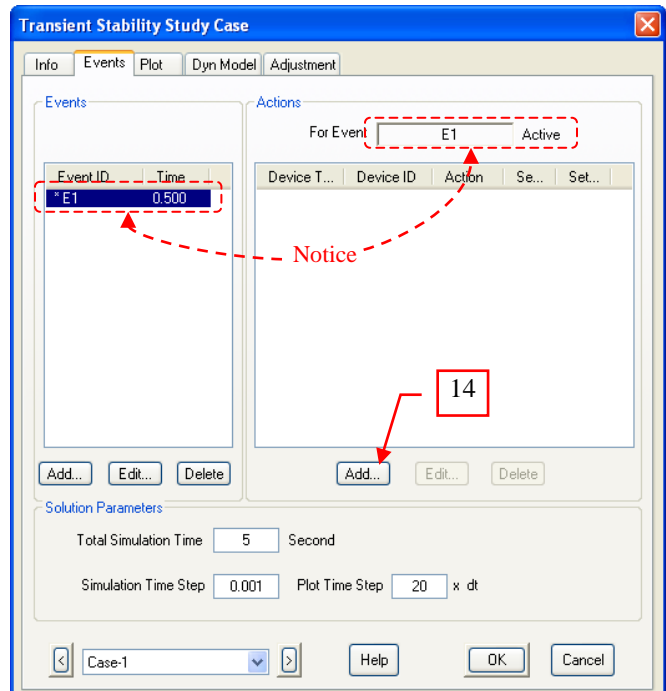

Fig. 9
14. With the Event ID “E1” active (selected) in the “Events” Frame of the “Events” dialog box, click the “Add” button at the “Actions” frame (See Fig. 9). The “Action Editor” dialog box will be displayed.